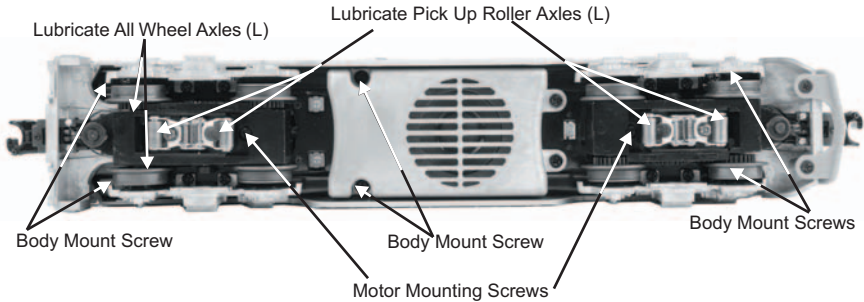

Figure 5. Body Removal Screw Locations
1. To access the gear box, remove the cab from the chassis by unscrewing the body mount screws as seen in Figure 5 and lifting the cab from the chassis.
2. Once the cab is removed, remove the trucks by unscrewing the black Phillips motor mount screw located on the underside of the drive trucks (see Figure 5).